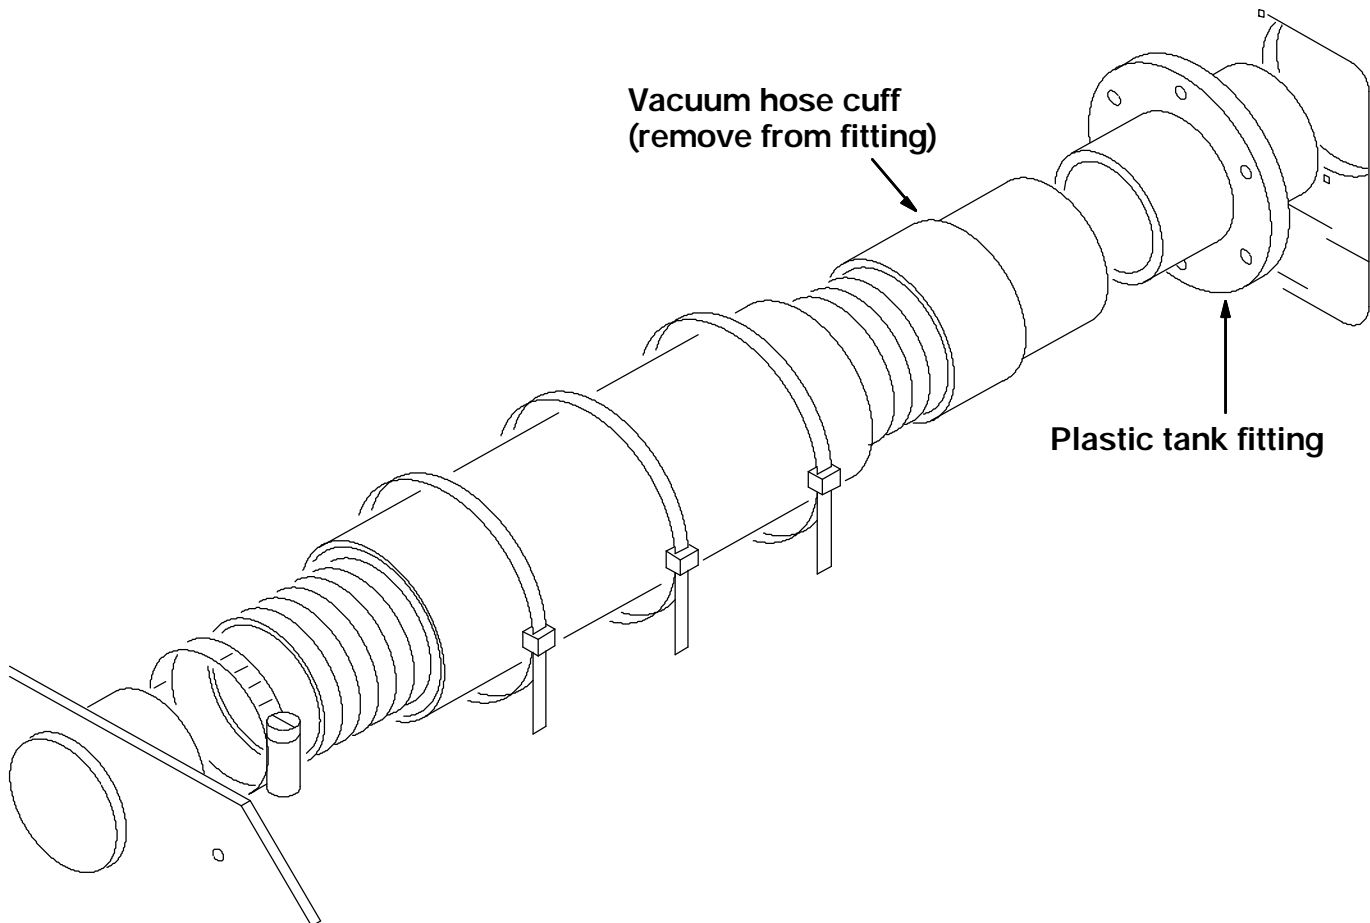

FIG. 1 - Remove Vacuum Hose Cuff From Plastic Tank Fitting
(Refer to FIG. 1, 2, 3, and 4)
2. Pull the scrubber vacuum fan hose cuff off the plastic fitting in the front of the recovery tank. (Refer to FIG. 1)